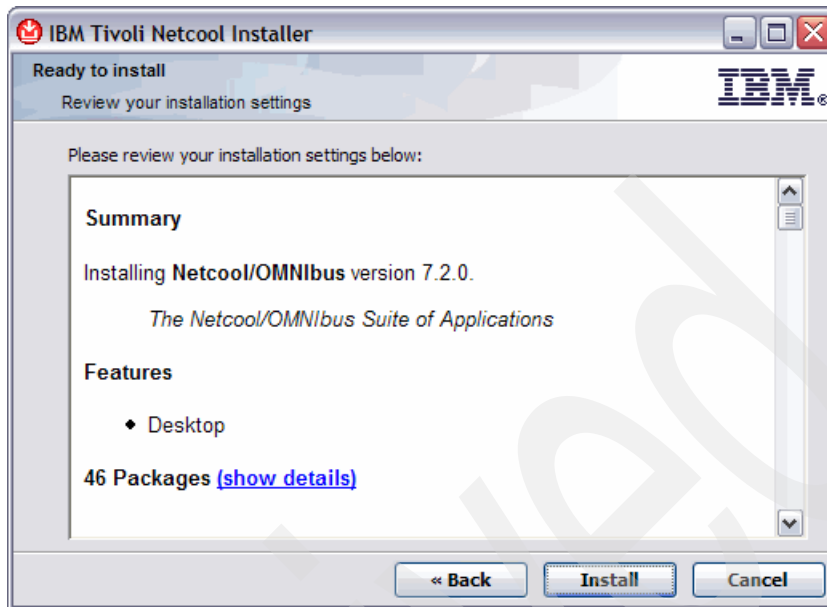

Figure 4-5 IBM Tivoli Netcool/OMNIBus installation
5. In the installation summary window shown in Figure 4-5 on page 89, click the **Install** button.